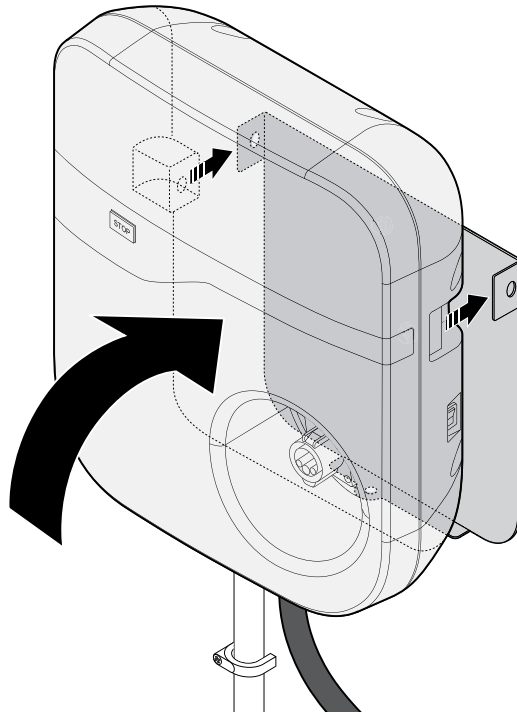

Figure 4-5. Alignment of charging station on mounting bracket
5. See Figure 4-5. Align the screw holes of the mounting bracket with the Level 2 Charging Station.